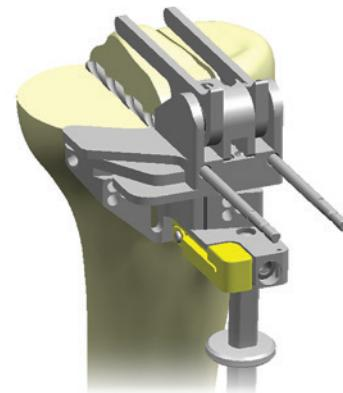

Figure 30
- 1 With the tibial orientation stylus locked, drive a 1/8" (3.2mm) drill or pin into each of the medial and lateral undercut protection holes. Be careful not to protrude through the posterior cortical bone (Figure 30).